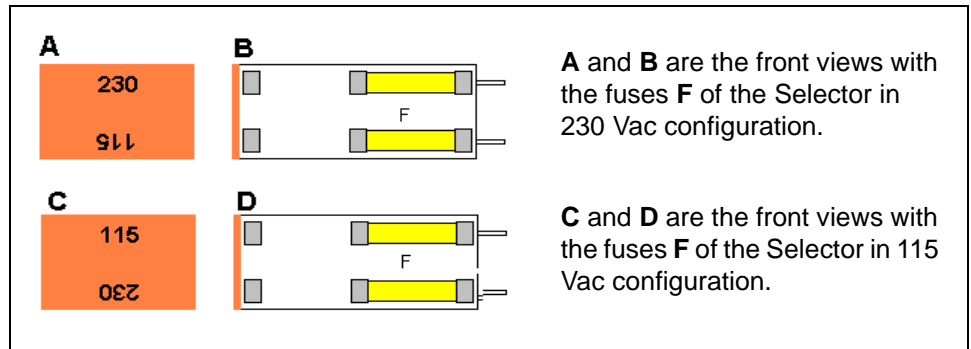

Figure 2-46. Voltage Selector Configuration
2. Take the voltage selector out of its seat. The selector appears as schematically shown in Figure 2-46.